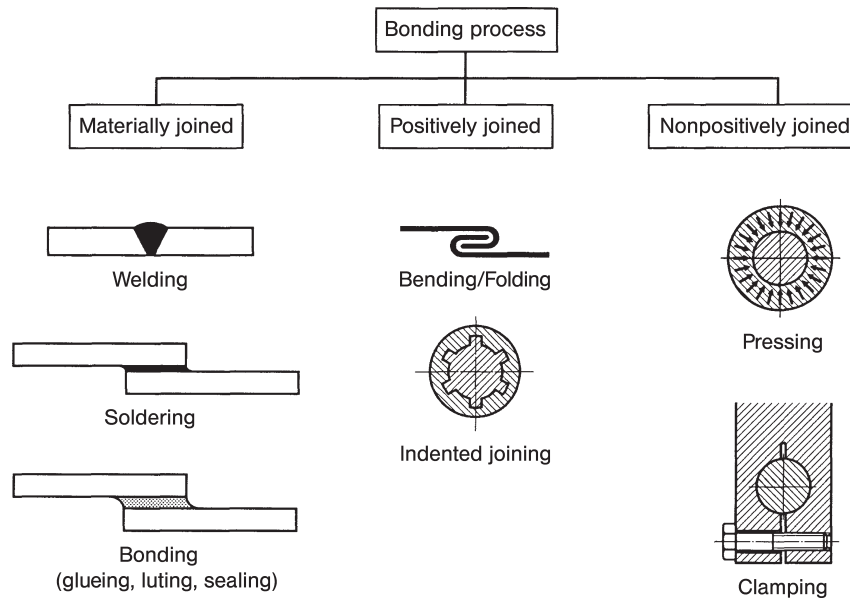

Figure 1.1 Classification of joining processes.
- *nonpositive* joints, for example, pressing, clamping, screwing, riveting (Figure 1.1).
Compared to some of the joining processes depicted in Figure 1.1, bonding shows remarkable *advantages*:
- The combination of positive and nonpositive joining processes is important for the optimization of strength, stiffness and corrosion resistance, as the case may be (e.g., folding – bonding in car manufacturing), tightness (e.g., in screw, rivet and spot-welding constructions, shaft-to-collar connections and folds) (Figure 1.1 and 11.5).